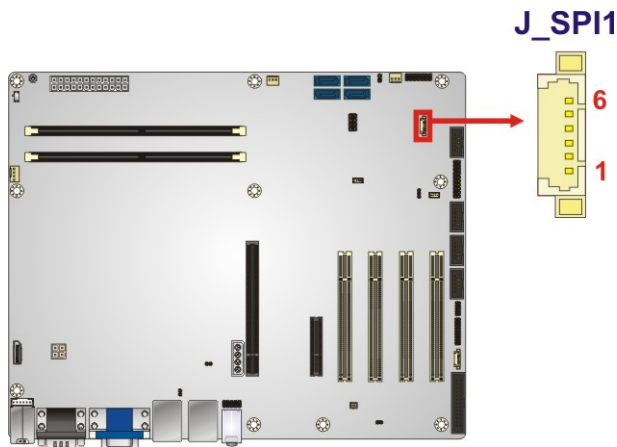

Figure 3-27: SPI Flash Connector Location
- CN Location:** See **Figure 3-27**